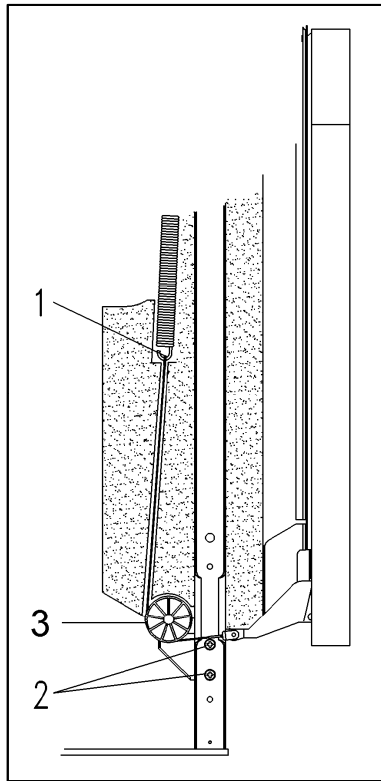

Figure 5-4: Side View, Door with Bracket
4. Release the Cable from the Bracket (Figure 5-4 – Item 3).
5. Unhook the Spring (Figure 5-4 – Item 1).
6. Remove the Raised Head Screws (Figure 5-4 – Item 2).